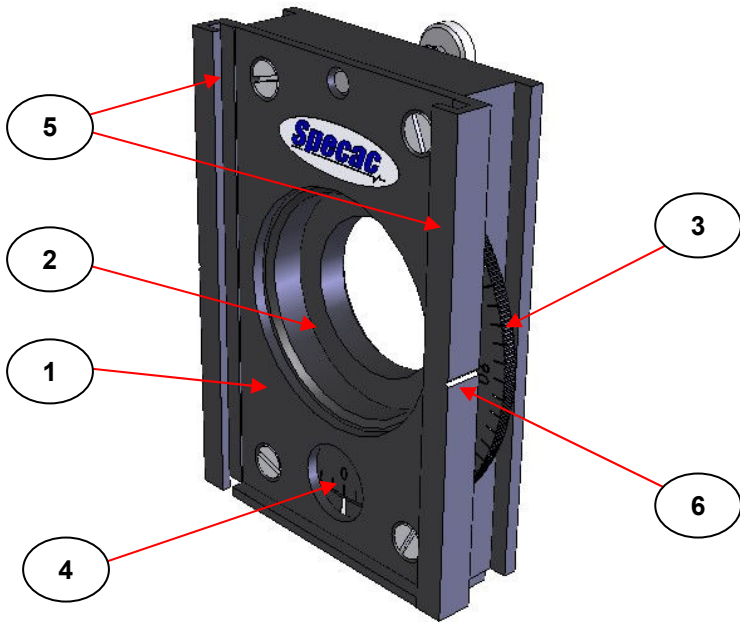
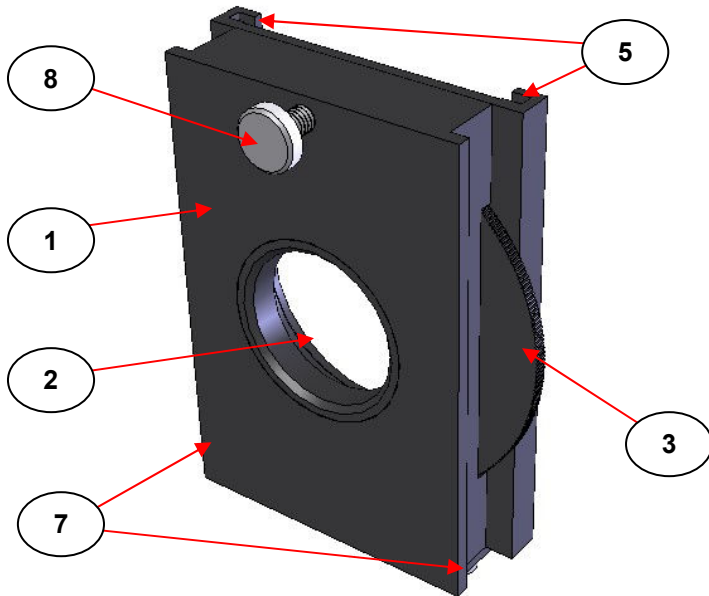

Fig 1. Front Side View of Rotator 3" x 2" Slide Mount P/N GS12500
Fig 2. Rear Side View of Rotator 3" x 2" Slide Mount P/N GS12500
The polarizer rotator 3" x 2" slide mount (1) is shown in Fig 1. for its front view and in Fig 2. for its rear view.
In operation, as shown from the front side view (**Fig 1.**), a GS12000 Series polarizer is placed into the aperture opening (2) using the spring clip ring mount of the GS12000 Series polarizer to obtain a tight, secure fit. Once the polarizer has been correctly positioned into the aperture (2), it can be rotated to present to or discriminate for a particular angle of polarized light from rotational adjustment by hand of the angular, graduated wheel (3). From a correct fitting of the polarizer
In operation, as shown from the rear side view (**Fig 2.**), the polarizer rotator 3" x 2" slide mount (1) (ideally with a GS12000 polarizer already fitted) is installed into the 3" x 2" slide mount plate of a spectrometers mount system using the slide mount runners (7) at the side edges of the rear plate assembly. Also at the rear, there is a tightening thumb screw (8). This can be used to secure a 3" x 2" slide mounted Accessory when attached to the rotator mount (1) via the groove slots (5) as described. Turning the screw (8) clockwise will apply pressure to the 3" x 2" slide plate of the Accessory forcing the plate overall against the groove slots (5) for a tighter fit with no lateral movement of the Accessory. The screw (8) needs to be removed completely if the 3" x 2" slide mount plate system of the spectrometer does not allow for a correct beam height fit of the polarizer rotator 3" x 2" slide mount (1) when the screw (8) is in place.